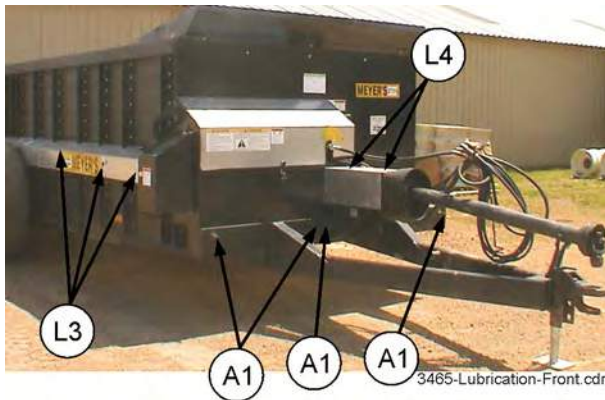
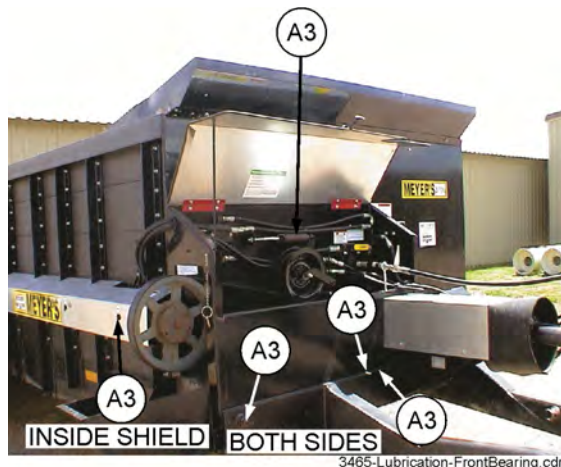

FIGURE 10.
FIGURE 12.
The apron chain is adjusted by (4) adjuster screws located on the front of the box frame, Figure 10 and Figure 12. Adjust the screws so there is no chain sag on the return side and chain is never closer than 5" to the spreader axle. When there is no more adjustment left on the adjuster screws, loosen the nuts on the screws and push the screws in as far as they will go. Then remove a link from each chain and readjust the apron chain.
General rules of tensioning. Figure 12.
(L3) Grease four bearings on the side drive shaft and bearing at front end of shaft one pump every 8 hours. Figure 10 and Figure 12.
(L4) There is a bearing at each end and middle of the shaft connecting the PTO shaft with the front belt drive, see Figure 10. Grease these bearings one pump every 8 hours.